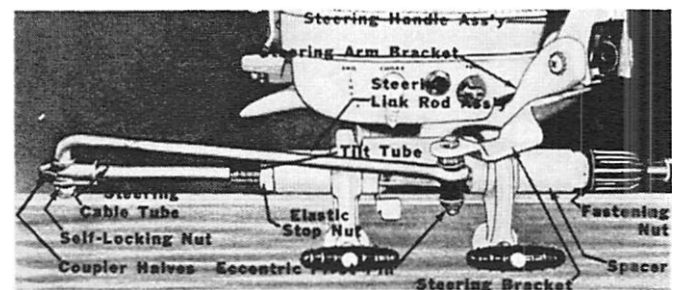

Figure 4. Attaching Kit Installed
2. Replace hollow tilt tube with new, longer tilt tube from kit. (Figure 4)
3. Place spacers from kit on tilt tube and secure with elastic stop nuts from engine. (Figure 4)
5. Place steering bracket from kit into position on steering arm bracket. (Figure 4) Steering handle assembly need not be removed.